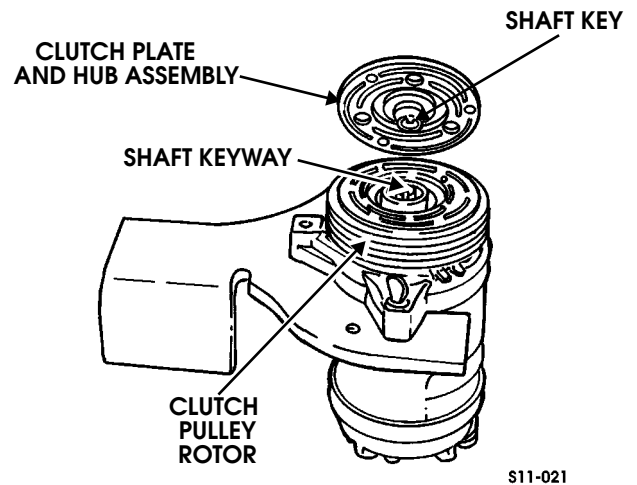

Figure 11-50: Shaft Key
5. Remove the shaft key and retain for reassembly (Figure 11-50).
1. Install the shaft key into the hub key groove. Allow the key to project approximately 1/8 in. (3.2 mm) out of the keyway. The shaft key is curved slightly to provide an interference fit in the hub key groove (Figure 11-50).
- Spin the pulley rotor by hand to see that the rotor is not rubbing the clutch drive plate (Figure 11-50).